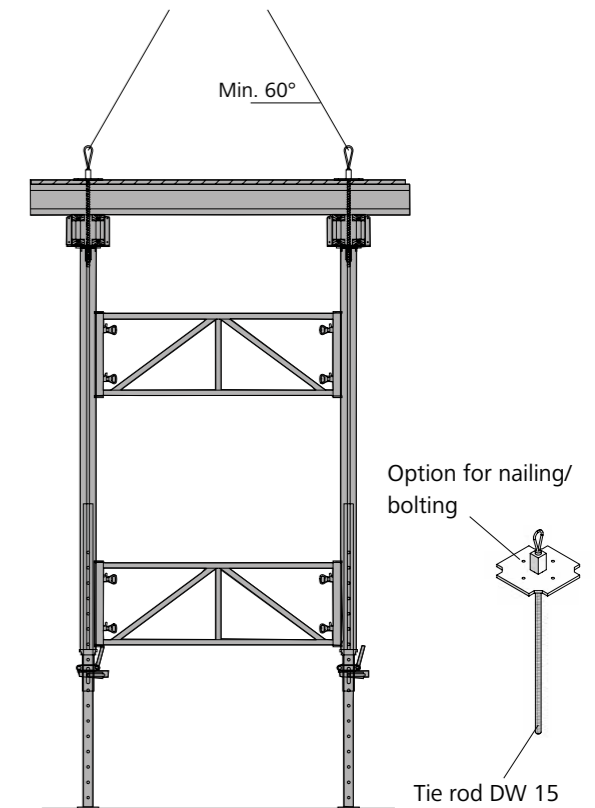
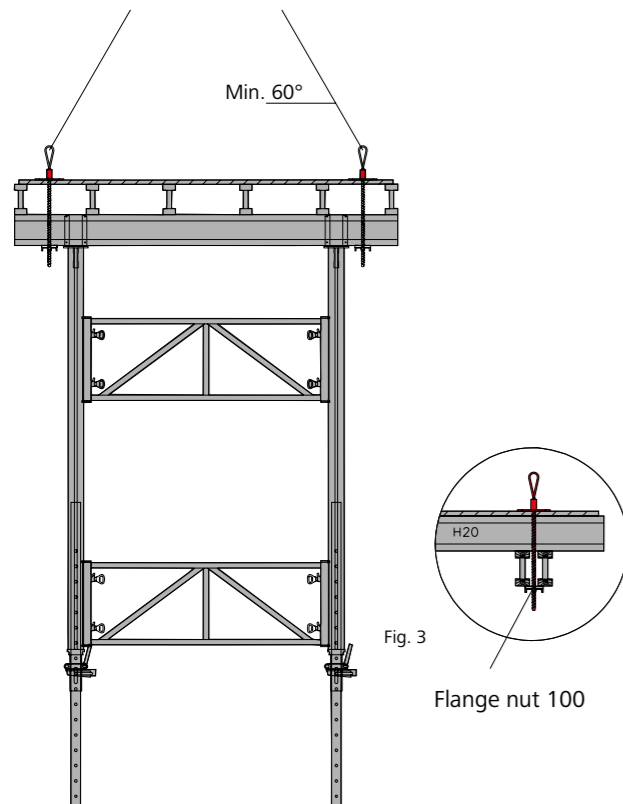

Fig. 1
Fig. 2
- By screwing them into the DW threads of the forked prop heads MEP (Fig. 1)
- By securing them with the flange nut 100 (Figures 2 and 3)
To provide stability, the crane hanger MEP must be fixed to the facing with nails or screws (Fig. 1). If a forked prop head MEP is not used, the crane hanger MEP must be mounted outside of the forked prop head. In this case, the construction must be secured with a flange screw 18 (Figures 2 and 3).
- Always use four crane hangers MEP attached symmetrically to the slab table (Figures 1 and 2).